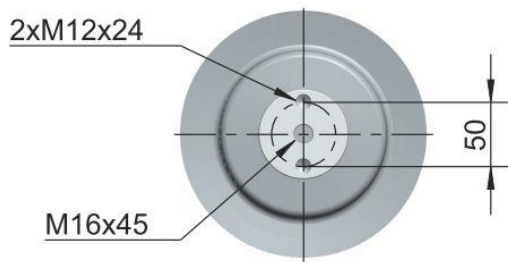

Fig. 6 Possible connections: central M16 threaded hole and 2xM12 threaded holes
- 1xM16 threaded hole and 2xM12 threaded holes [Fig. 6]